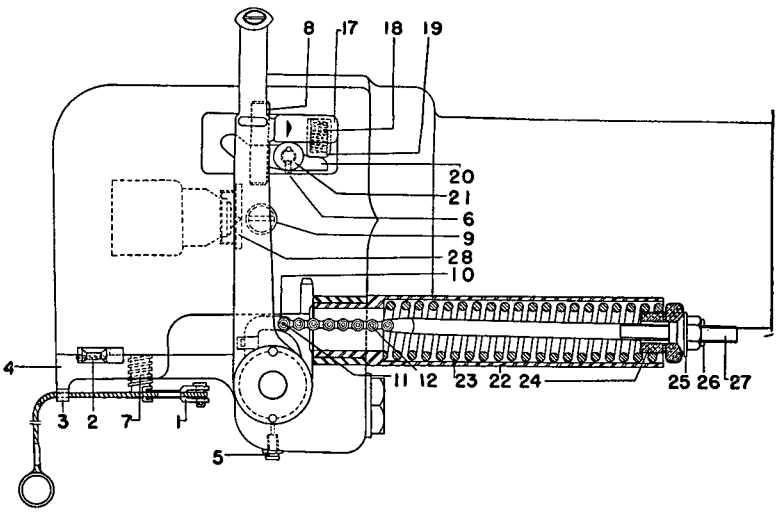
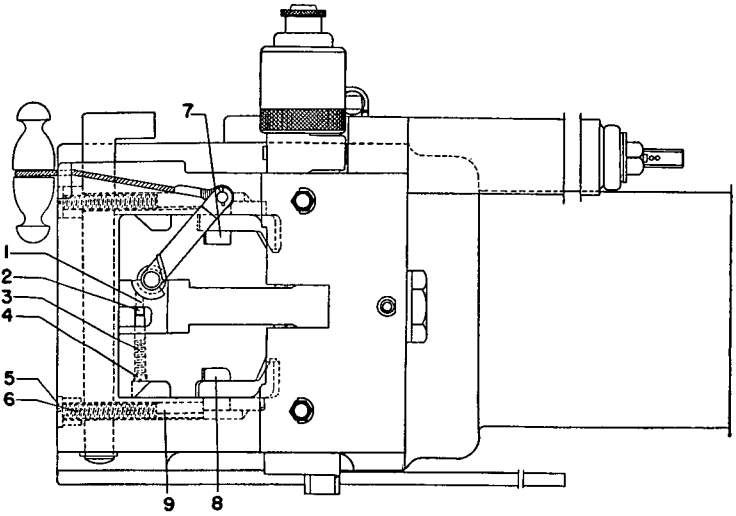
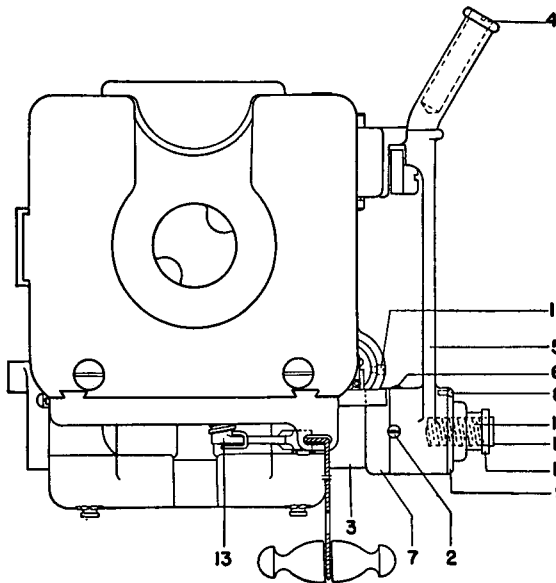
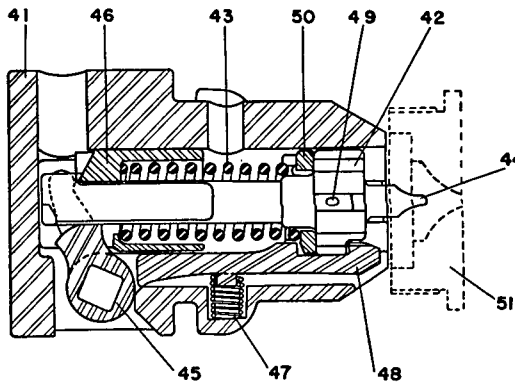

FIGURE 6.—Breech mechanism, 3-inch antiaircraft gun, M3, right side elevation.
FIGURE 7.—Breech mechanism, 3-inch antiaircraft gun, M3, bottom elevation.
FIGURE 8.—Breech mechanism, 3-inch antiaircraft gun, M3, rear elevation.
FIGURE 9.—Firing mechanism, 3-inch antiaircraft gun, M3, horizontal cross section.
■ 40. TO REMOVE AND DISASSEMBLE BREECHBLOCK.—*a.* Remove one of the cap screws from the breech lamp bracket, loosen the other cap crew, and swing the lamp assembly clear of the breech recess. Unscrew plugs (5) (fig. 7) and remove extractor springs and plungers (6) and (9). Screw an eyebolt in the top of the breechblock for use in lifting the block. Open the breech and insert a pin or punch in the opening in the spring piston rod (27) (fig. 6) at the rear face of the closing spring cylinder (22), thereby releasing the tension of the spring on the breechblock. (See note
below.) Screw in the clutch (11) (fig. 8), and close the breech. Remove the cotter pin which retains the chain terminal and unhook the chain from the operating shaft.
b. Draw the trigger shaft detent (1) (fig. 7) to the left by the handle (2) and draw out the trigger shaft (13) (fig. 8). Remove the firing case (41) (fig. 9) by turning until the locating lugs are disengaged. Remove the split pin from the lock plate key (2) (fig. 6) and drive out the key. Remove the lock plate (4).
c. Rotate the operating shaft (3) (fig. 8) as in opening the breech. When the arm of the operating shaft turns out of the breechblock, draw the shaft to the rear out of the breech ring. It may be necessary to raise or lower the breechblock slightly while removing the shaft. Lower the breechblock sufficiently to remove the extractors.
d. Raise and remove the breechblock from the breech ring. Remove the detent spring (3) (fig. 7) by first removing screw (4) holding the spring. The detent (1) may then be removed.
e. The bushing (28) (fig. 6), which is screwed very tightly in the front face of the breechblock, is assembled during manufacture and will not be removed by the using service personnel.
NOTE.—If it is desired to disassemble the closing spring cylinder mechanism, do not insert pin in the spring piston rod. With breech closed, unscrew piston rod nut (25) (fig. 6) and withdraw spring piston (24). The closing spring may then be removed from the front and the spring piston rod from the rear.
■ 41. TO DISASSEMBLE FIRING CASE.—*a.* With the firing case assembly withdrawn from the breechblock as explained in paragraph 40, insert a screw driver in small hole in the firing case and push the trigger fork (45) (fig. 9) from the case.
b. Remove the firing pin holder assembly (42) by pressing the sear (48) against the spring (47) with a finger at the front of the case, and by pushing the entire firing pin holder assembly from the rear with the fingers of the other hand.
c. Remove the sear (48) and the sear spring (47).
■ 42. TO DISASSEMBLE FIRING PIN HOLDER ASSEMBLY.—*a.* Separate the holder (42) (fig. 9) from the sleeve (46) by pressing inward on the end of the firing pin holder, thus dis-
c. Remove spring stop (50) and the cotter pin (49) from the holder (42), and unscrew the firing pin (44) from the firing pin holder (42).
■ 43. TO DISASSEMBLE OPERATING HANDLE AND OPERATING SHAFT.—Unscrew the clutch lock (10) (fig. 8) to disengage the clutch from the shaft, and remove retaining ring lock screw (2). Unscrew the retaining ring (7) from the operating shaft (3) and remove the operating handle assembly. Unscrew retaining ring from the operating handle hub. Remove the clutch lock bearing lock screw (8) and unscrew the bearing from the handle hub. The method of disassembling the remaining parts needs no explanation.
■ 44. TO ASSEMBLE FIRING PIN HOLDER ASSEMBLY.—a. Insert the firing pin (44) (fig. 9) into the firing pin holder (42) until it fits tightly against the shoulder. Insert the cotter pin (49) through the holder and spread the ends to clear the firing case bore. Assemble spring stop (50) and firing spring (43) on the firing pin holder (42). Place the firing pin holder sleeve (46) over the firing spring and firing pin holder, and force it against the spring until the beveled surface on the inner part of the sleeve and the irregularly formed end of the firing pin holder hook together, retaining the parts.
■ 45. TO ASSEMBLE FIRING CASE.—a. Turn the spring stop (50) (fig. 9) on the firing pin holder (42) until the flat edges of the fork are in a plane parallel to that of the flat surface
b. Insert the sear spring (47) into its seat inside the firing case (41). Insert the sear (48) into the case, placing the stud on the bottom of the sear into the sear spring (47). With a finger hold the rear end of the sear (48) up, and with the other hand insert the firing pin holder assembly about halfway into the case. Then press the rear end of the sear down and push the firing pin holder assembly fully into the case.
c. Insert the trigger fork (45) into the opening in the side of the case, with the rounded projections on the fork ends toward the front of the case, in which position the ends rest against the rear face of the firing pin holder sleeve (46). Push the trigger fork in as far as it will go, slapping it with the palm of the hand if necessary.
■ 46. TO ASSEMBLE BREECHBLOCK.—*a.* Assemble the trigger shaft detent (1) (fig. 7) into the detent hole in the lower left-hand side of the block. As the detent passes into the slot in the bottom of the block, slip the detent handle (2) over the small diameter of the detent up to the shoulder. Place the detent spring (3) in the hole and insert screw (4).
■ 47. TO ASSEMBLE OPERATING HANDLE.—*a.* The grip position is made hollow to reduce its weight, the hole in the end being closed by screwing in the handle plug (4) (fig. 8). The oil cup (6) is pressed into the hub of the handle. These parts are assembled during manufacture and are not intended to be removed.
b. Screw the clutch lock (10) (fig. 8) through the clutch spring (12) into the clutch (11), and insert them into the handle, locating the key and keyway together. Now screw the bearing fully into the handle. Locate the nearest hole
■ 48. TO ASSEMBLE OPERATING SHAFT.—Slide the operating handle assembly on the operating shaft, pushing it on until the projections on the shaft pass through the openings in the retaining ring (7). Retain the handle on the shaft by screwing the retaining ring fully against the shoulder, and insert the retaining ring lock screw (2). The lock screw should seat in the depressions in the ring and handle. Screw the clutch lock fully to the right to engage the clutch with the shaft.
b. Place the extractors (7) and (8) (fig. 7) in position in the breech recess, and press upward from the bottom so that they lie flat against the face of the breech.
f. With the breech open, insert the extractor plungers (9) (fig. 7) in the holes in the breech face, small end of the plunger to the rear, followed by the extractor plunger springs. Screw plugs (5) in position.
g. Attach the chain terminal to the operating shaft. (In case the closing spring assembly has been disassembled, place the closing springs (23) (fig. 6) in the closing spring cylinder (22). Insert the spring piston rod (27) through the spring and spring cylinder from the rear end and attach the chain terminal to the operating shaft. Place the spring piston (24) on the rod and screw the piston rod nut (25) on the rod until the end protrudes through the nut about three-fourths of an inch.)
h. Close the breech and insert the trigger shaft (1) (fig. 6), first placing the spring (7) in position on the trigger shaft. Press the trigger shaft detent handle to the left to allow the trigger shaft to enter, and then allow the detent (1) (fig. 7) to move back into the annular groove in the shaft.
■ 50. TO ASSEMBLE LATCH PLATE (fig. 6).—Place the latch spring (18) into the spring cup (19), and hold the parts in position in latch plate (17). At the same time assemble the latch (20) in the plate by forcing the boss on the latch into its seat in the latch plate, holding it in position until the latch bolt (21) can be entered several threads. Screw the latch bolt (21) home and insert the latch bolt set screw (6). The disassembly of this mechanism is the reverse of the above procedure.